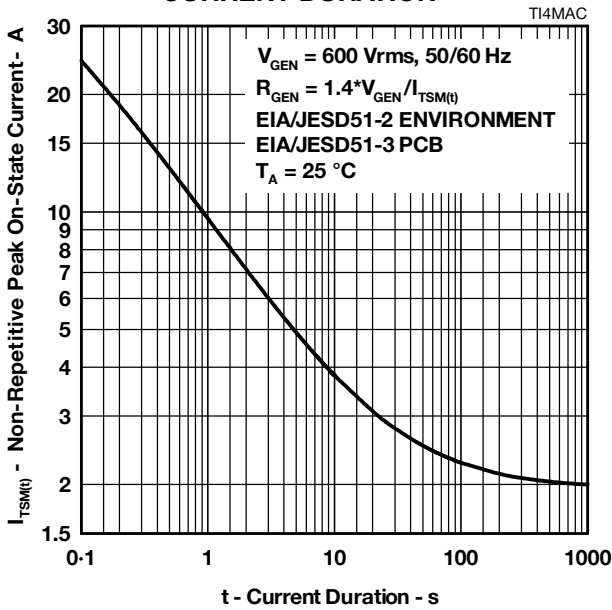

Figure 9.
5. EIA/JESD51-2 environment and EIA/JESD51-3 PCB with standard footprint dimensions connected with 5 A rated printed wiring track widths. See Figure 9 for the current ratings at other durations. Derate current values at -0.61 %/°C for ambient temperatures above 25 °C.
The protector can withstand currents applied for times not exceeding those shown in Figure 9. Currents that exceed these times must be terminated or reduced to avoid protector failure. Fuses, PTC (Positive Temperature Coefficient) thermistors and fusible resistors are overcurrent protection devices which can be used to reduce the current flow. Protective fuses may range from a few hundred milliamperes to one ampere. In some cases, it may be necessary to add some extra series resistance to prevent the fuse opening during impulse testing. The current versus time characteristic of the overcurrent protector must be below the line shown in Figure 9. In some cases, there may be a further time limit imposed by the test standard (e.g. UL 1459 wiring simulator failure).